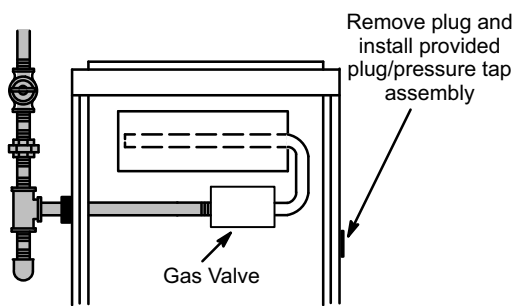

FIGURE 9
- 2 - Remove the 2" plug from the side of the cabinet not used for gas supply piping and replace with the provided plug/pressure tap assembly. See figure 9.